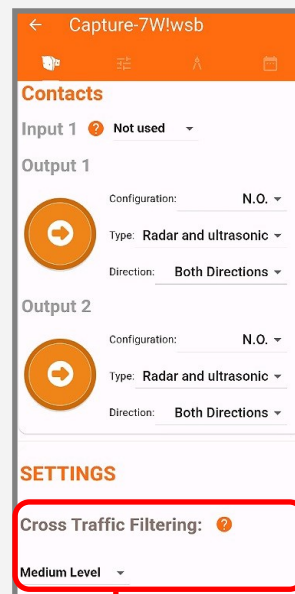

Fig 3
- 3) Activate the Cross Traffic Filter before entering the calibration setup. Fig 3